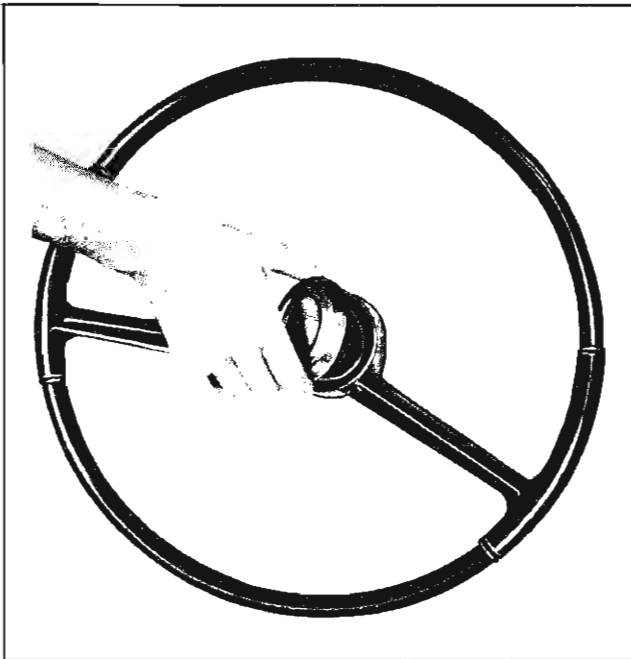

Fig. 9-4 Standard Horn Button
1. Lift to remove ornament (Figs. 9-4 and 9-5).